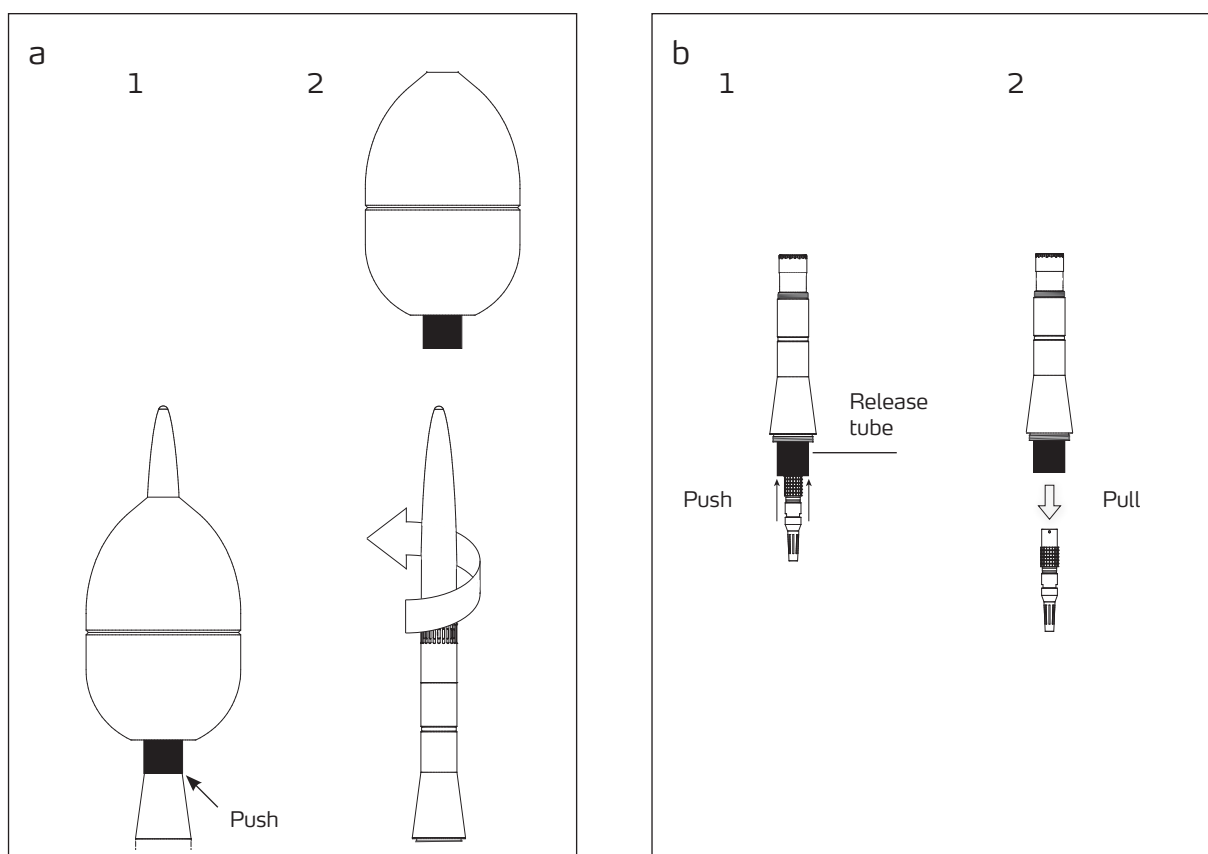

Fig. 7. Removing the wind screen and disconnecting the cable.
1. Unscrew the top cone (see Fig. 7, a2).
An acoustic in-situ verification or a calibration in a laboratory with a pistonphone or a sound calibrator requires that windscreen and top cone are dismantled. How to do this is shown in Fig. 7. Calibration can be performed using a Sound Calibrator or a Pistonphone. The G.R.A.S. 42AP Intelligent Pistonphone is recommended because of its built-in thermometer and barometer. The Sound Calibrator/Pistonphone must be fitted with a coupler for 1/2-inch microphones.